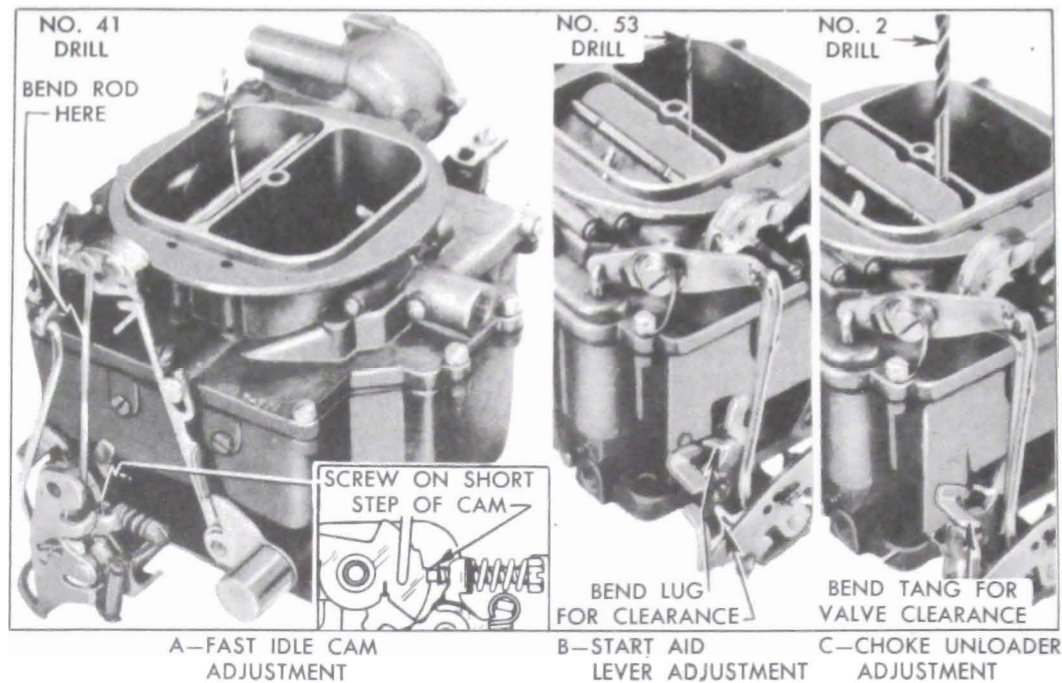

Figure 3-85—Fast Idle Cam and Choke Unloader Adjustments
1. Place a No. 41 drill between wall of air horn and the center of upper edge of choke valve, and hold valve firmly closed against the drill. See figure 3-85 (A).
2. Make sure that the fast idle cam spring holds the cam up against end of fast idle rod, then close the throttle until stop screw contacts the fast idle cam. The screw should just clear the edge of the highest step of cam and bear against the second (short) step, as shown in figure 3-85 (A).
4. Remove the No. 41 drill and place a No. 53 drill at the same point, then hold choke valve firmly closed against the drill. See figure 3-85 (B).
5. Slowly open and close throttle valve several times and check clearance between the start aid loose lever on throttle stem and the lock lever behind the fast idle cam as indicated in figure 3-85 (B).
throttle body, then check clearance between wall of air horn and upper edge of choke valve, using a No. 2 drill. Bend the long tang on lock lever as required to obtain specified clearance. See figure 3-85 (C).